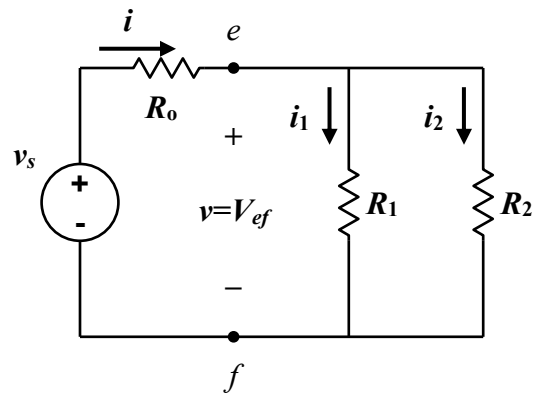

Figure 2.5
26. Construct the circuit shown in **Figure 2.5** with $R_0 = 470 \Omega$, $R_1 = 680 \Omega$, and $R_2 = 1.0 \text{ k}\Omega$. With the power supply turned off and set to zero volts, connect it to the circuit.